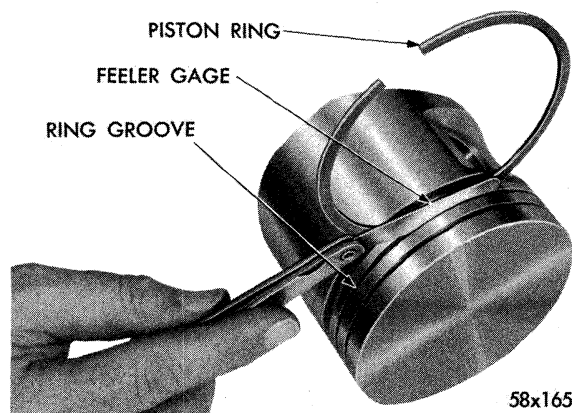

Fig. 78 — Measuring Piston Ring Clearance
Measure the piston ring gap about two (2) inches from bottom of cylinder bore in which it is to be fitted. (An inverted piston can be used to push the rings down to insure positioning rings squarely in the cylinder wall before measuring.) Insert the feeler stock in gap (Fig. 78).